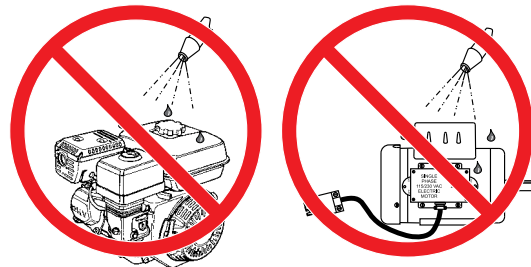

Figure 40. No Spraying of Water
9. **NEVER!** pour or spray water over the engine or electric motor (Figure 40).